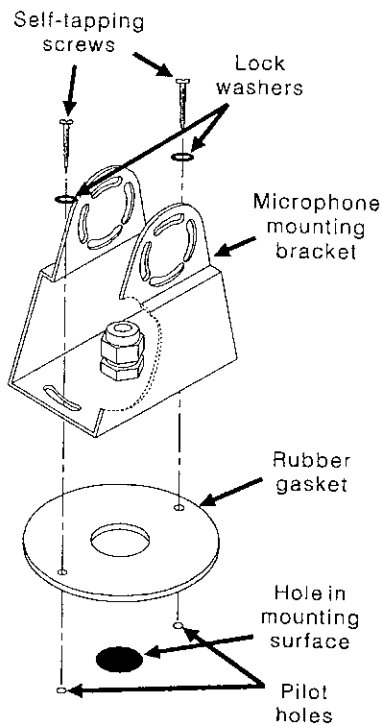

**Figure E-2. DM1 and foam inserts shown in typical SPP2 speaker post installation**
- Route the DM1 cable down through the hole in the shelf as shown in Figure E-2.